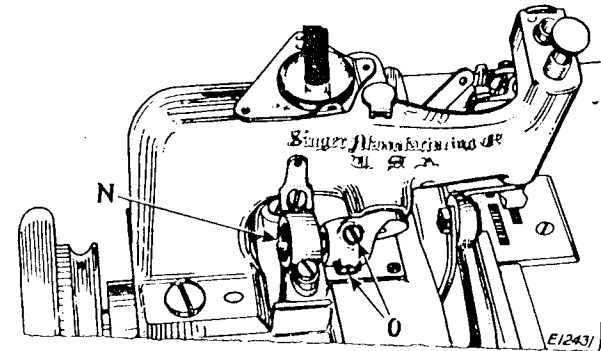

Fig. 10. To Change the Needle Bar Stroke
A variation in the amount of needle bar stroke can be obtained by adjusting the ball stud (N, Fig. 10). To lengthen the stroke, loosen the two set screws (O, Fig. 10) in the needle bar crank and move the ball stud inwardly or toward the crank. To shorten the stroke of the needle bar, move the ball stud outwardly or away from the crank, then securely tighten the set screws (O).